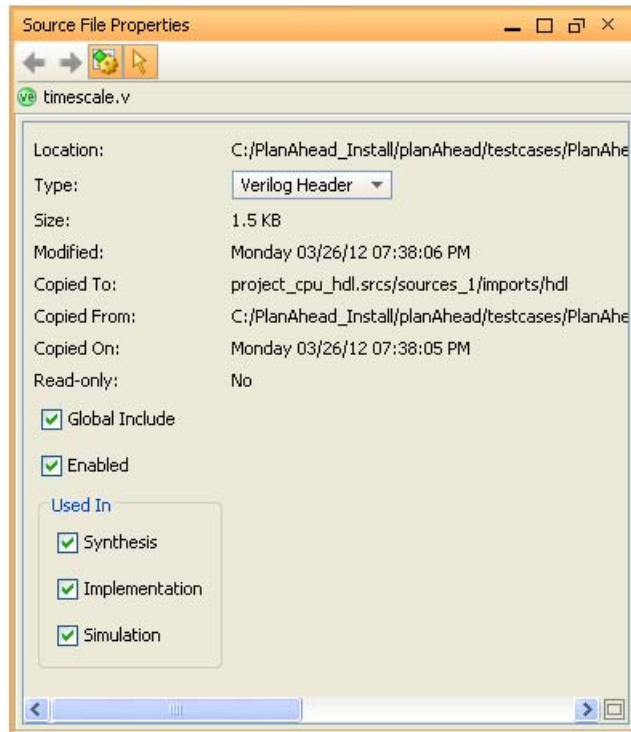

Figure 4-41: Viewing Modified Source File Properties
1. In the Sources view, select a source file and select the **Source File Properties** view. Figure 4-41, page 139 shows the Source File Properties view for a selected Verilog file.